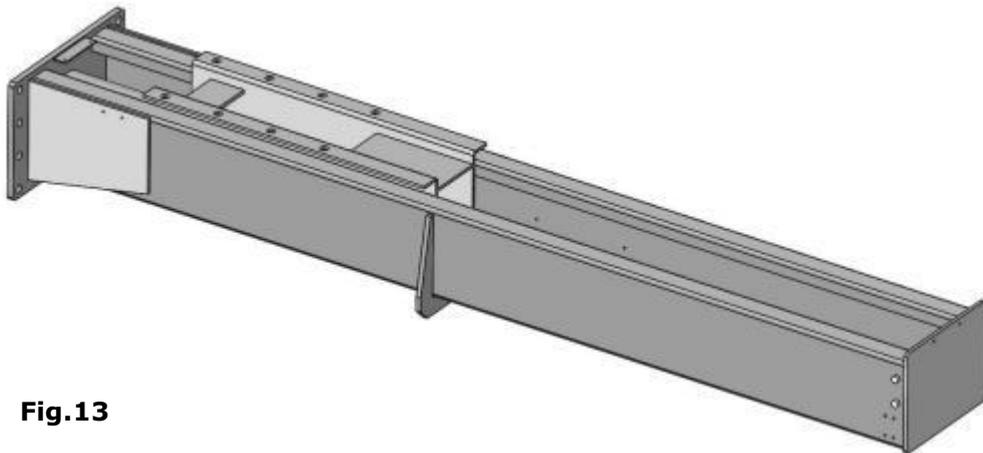

Fig.13
1. Lay the column flat to the ground. (See Fig.13)